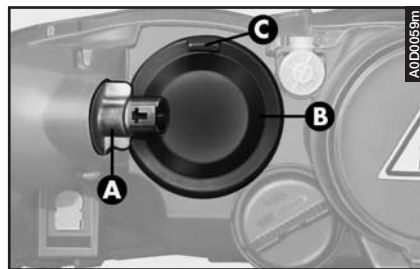

fig. 29
- Turn counter-clockwise and remove the direction indicator bulb holder (**A-fig. 29**), without disconnecting the connector to widen the working space.